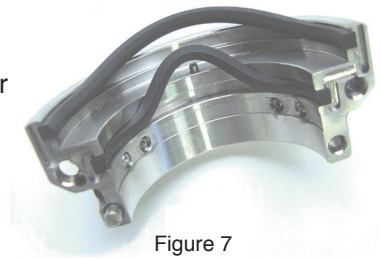

Figure 7
Note: For all standard size seals (.125 inch increments), the rotating face gasket, seat gasket and sleeve gasket are cut to the proper length at the factory and require no further trimming. These gaskets will appear to be too long for the groove. The extra length of the gasket will be compressed into the groove between the glued points at each joint during seal assembly. See Figure 7.
Note: For all standard size seals (.125 inch increments), the rotating face gasket, seat gasket, sleeve gasket are cut to the proper length at the factory and require no further trimming. These gaskets will appear to be too long for the groove. The extra length of the gasket is compressed into the groove between the glue points. See Figure 7.
- 4.8 Push the draped middle of the sleeve gasket and rotating face gasket into their grooves. Make sure these gaskets are fully seated in their grooves. **Do not** apply adhesive. See Figure 7.